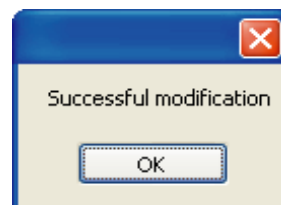

Fig.4-21
- b、 Modify wired controller: Select an existing wired controller (by click the drop down list of the KJR Address at the left Chart or by click the drop down list of the KJR Address at the right), and re-fill the wired controller name and click “Save” to finish the wired controller modification(see Fig. 4-21). KJR Name could not empty or pure blank character string (pure blank charter string is composed by space and tab)